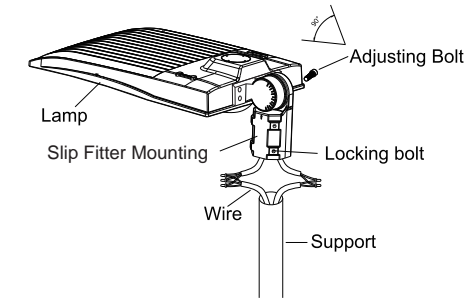

Figure 9
Step 1: Loosen the four bolts on the mounting, connect the wires correctly, and pull the wires into the poles. (Figure 9)
Notice: Adjustable angle is 0-90° (Figure 9)